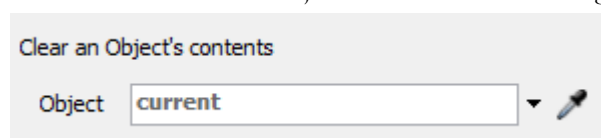

Fig. 7. *Clear out objects content* option
3. **Clear out objects content** – removes all elements that are on the object at the time the message is received (Fig. 7).